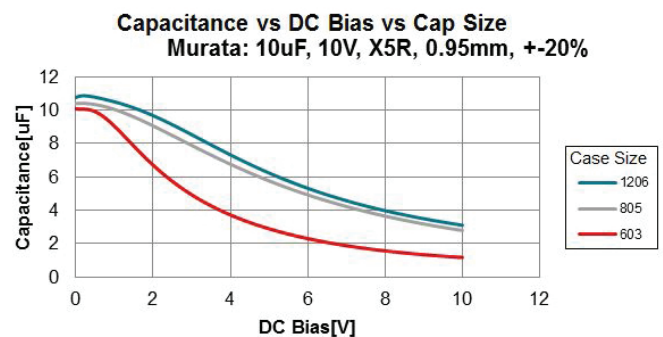

Figure 2: Capacitance vs. DC bias vs. capacitor size.
**Figure 2** shows the effects of applying voltages to a capacitor and the resulting capacitance. Notice how the larger case size loses less capacitance; this is because larger case sizes have more dielectric between the conductors, which reduces the strength of the electric field and locks on fewer dipoles.